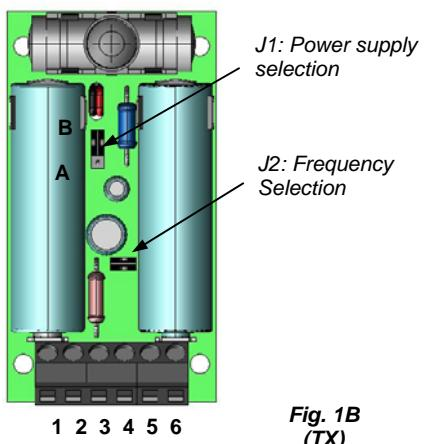

Fig. 1B
- Make connections as indicated in the previous paragraphs and select the transmitter power supply with the specific jumper (J1, Fig. 1B):
- Connect to the specific terminal strip (terminals 3 & 4, Fig. 1B) the safety edge or external safety device contact to the transmitter. **If this option is not used, jump terminals 3 and 4.**
- Connect to the specific terminal strip (terminals 5 & 6, Fig. 1B) the contacts of the 8K2 resistive edge external to the transmitter. **If this option is not used, do NOT jump terminals 5 and 6.**